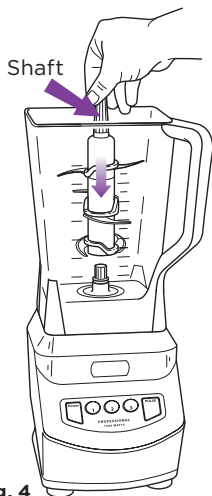

Fig. 4
- 5 Holding the blade assembly by the shaft, place it onto the gear shaft inside the pitcher. (Fig. 4) Ensure that the blade assembly fits around the gear shaft and that the blade shaft is standing straight.